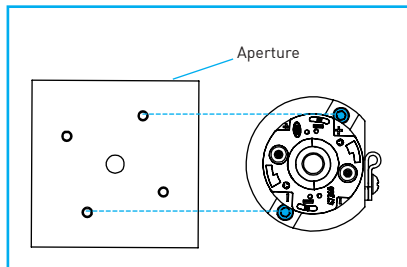

Fig.51
F. Raise LED engine into the trim aperture and tighten screws using supplied 7/64” Allen wrench “Fig.51”.
K. Raise LED engine into the trim aperture and tighten screws using supplied 7/64” Allen wrench “Fig.51”.